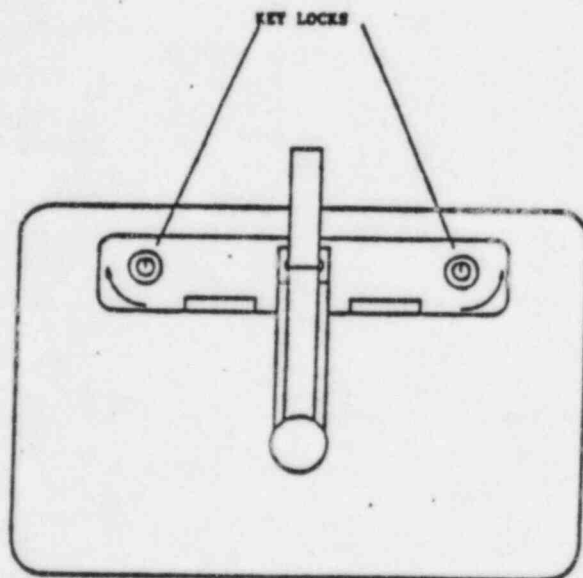

FIGURE 6
4. Unlock the locks that hold down the top (FIG 6).